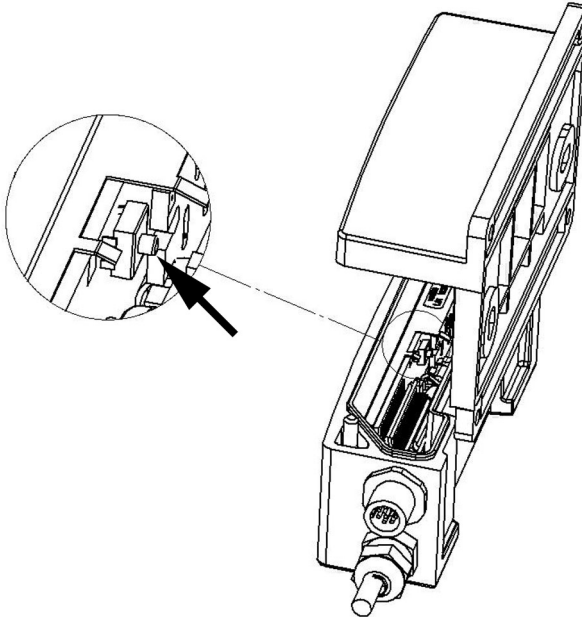

Figure 17 HMT310 adjustment button location
- 3. Press the adjustment button inside the HMT310 enclosure (see Figure 17 \(page 48\)) to start HMT310's adjustment mode. A notification about the adjustment mode is displayed on the MI70 screen.